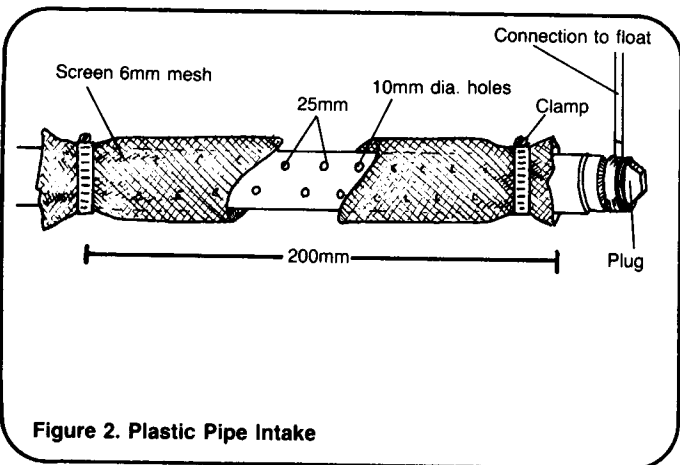

Figure 2. Plastic Pipe Intake
2. Prepare the intake pipe. Drill 8-10mm inlet holes or cut slots in the pipe and wrap the perforated section in 10mm wire mesh as shown in Figure 2. These holes should be about 25mm apart and cover a length on the end of the pipe of between 0.2m and 0.5m. Do not wind the mesh too tightly. Attach it to the pipe with a clamp. Be sure to plug the end of the pipe so that water only enters by the inlet holes through the mesh.